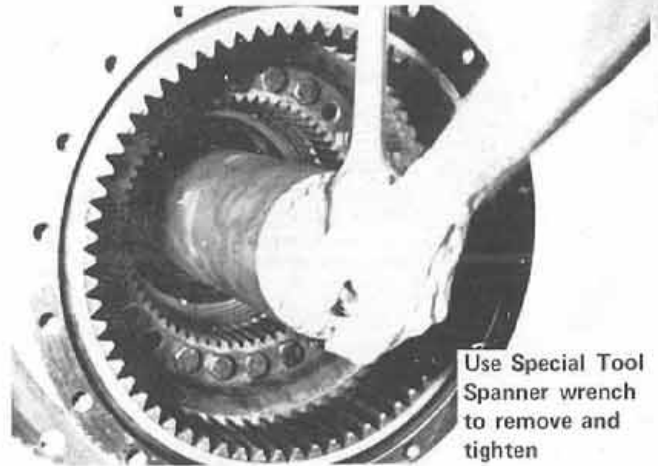
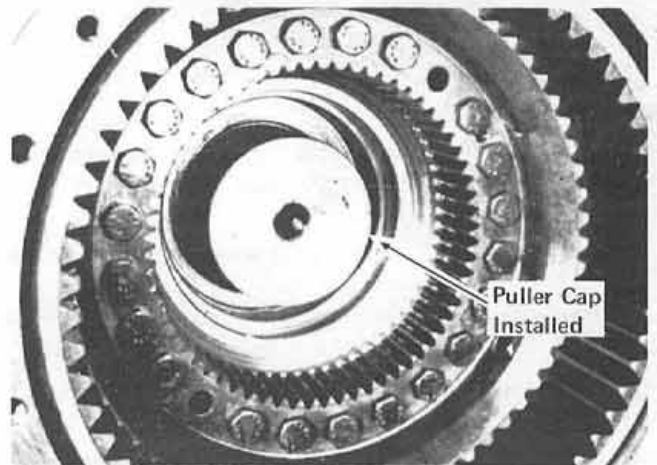
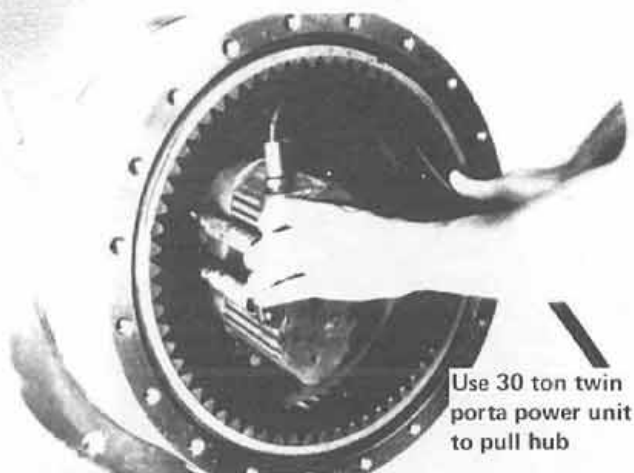
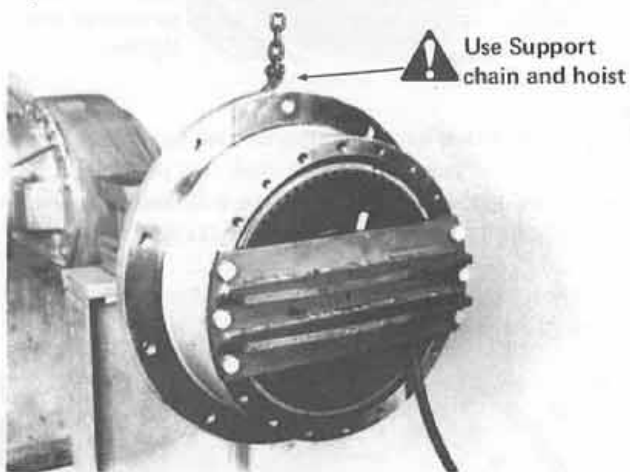

Figure 9
Figure 10
Figure 11
Figure 12
Step 10 Remove axle lockwasher and nut with spanner type wrench. (see figure 9) Install the puller cap over axle threads. (see figure 10) Place a 30 ton power-twin hydraulic unit between puller cap, plate and remove hub assembly. (See figure 11 page CC-12). Bolt the puller plate across hub and fasten with 10mm bolts. (See figure 12 page CC-12).
Step 11 Remove the double ring gear by removing 24 mm bolts secured to the ring gear support. (See figure 10 page CC 11).